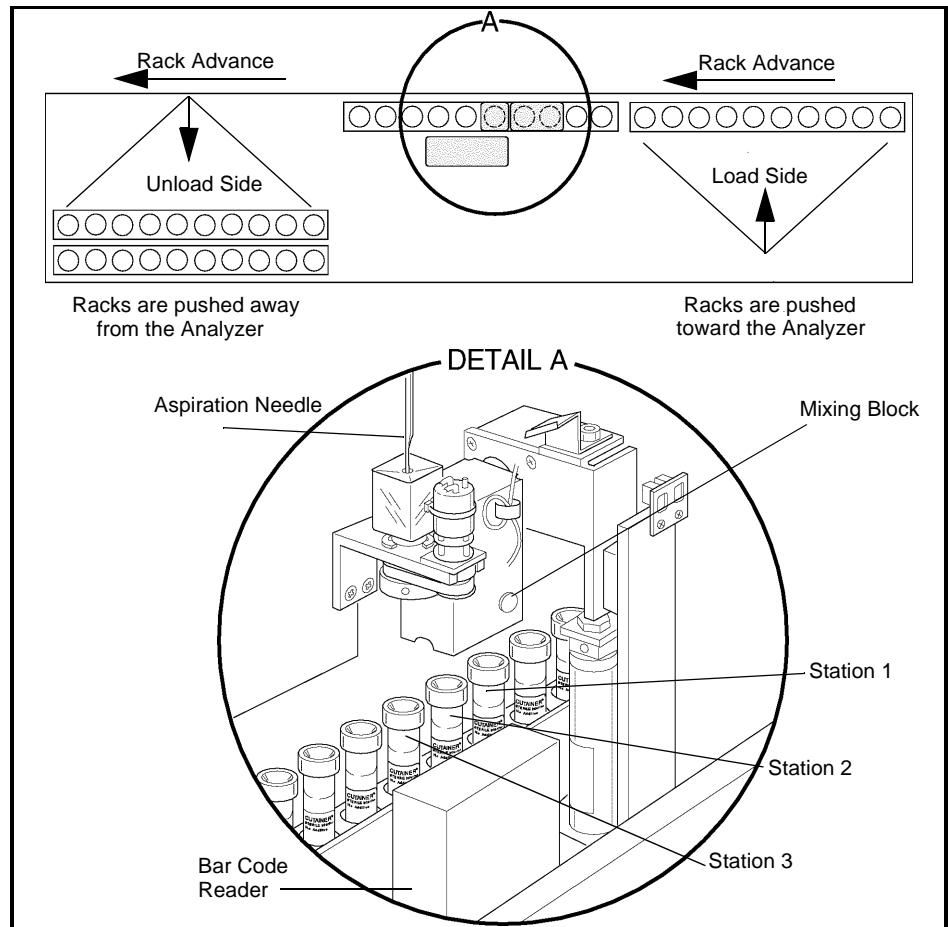

Figure 13.8: Rack Movement
The tube racks move from the load side, through the mixing and aspiration stations, to the unload side (refer to Figure 13.8). The rack closest to the Analyzer on the load side is the first to be processed. This is the starting position for a rack.
Prior to activating the Sample Loader, racks containing tubes to be processed should be placed on the load side of the Sample Loader (refer to Figure 13.8).
3. Racks are moved in sequential order from the load side, through the Mixing and Aspiration Stations to the unload side (refer to Figure 13.8).